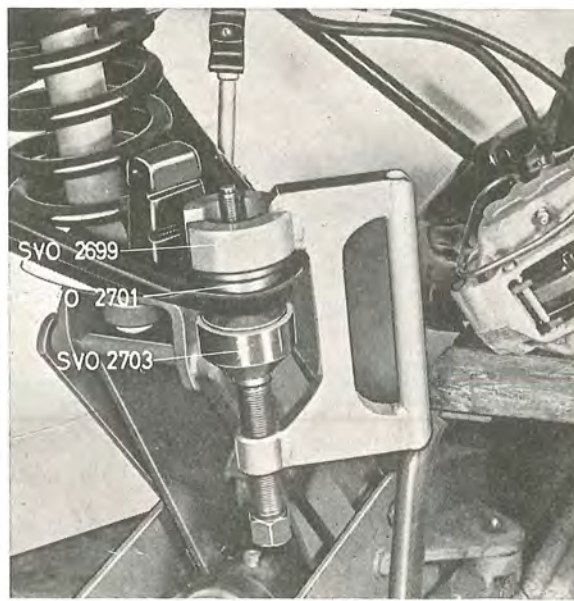

Fig. 6-26. Fitting the ball joint, lower wishbone
2. Press the ball joints in the wishbone with tools SVO 2699+2701+2703, see Fig. 6-26. If the ball joint is fitted at a slant turn the tool 180° and press the ball joint in correctly. The joint must not be loose in the wishbone.